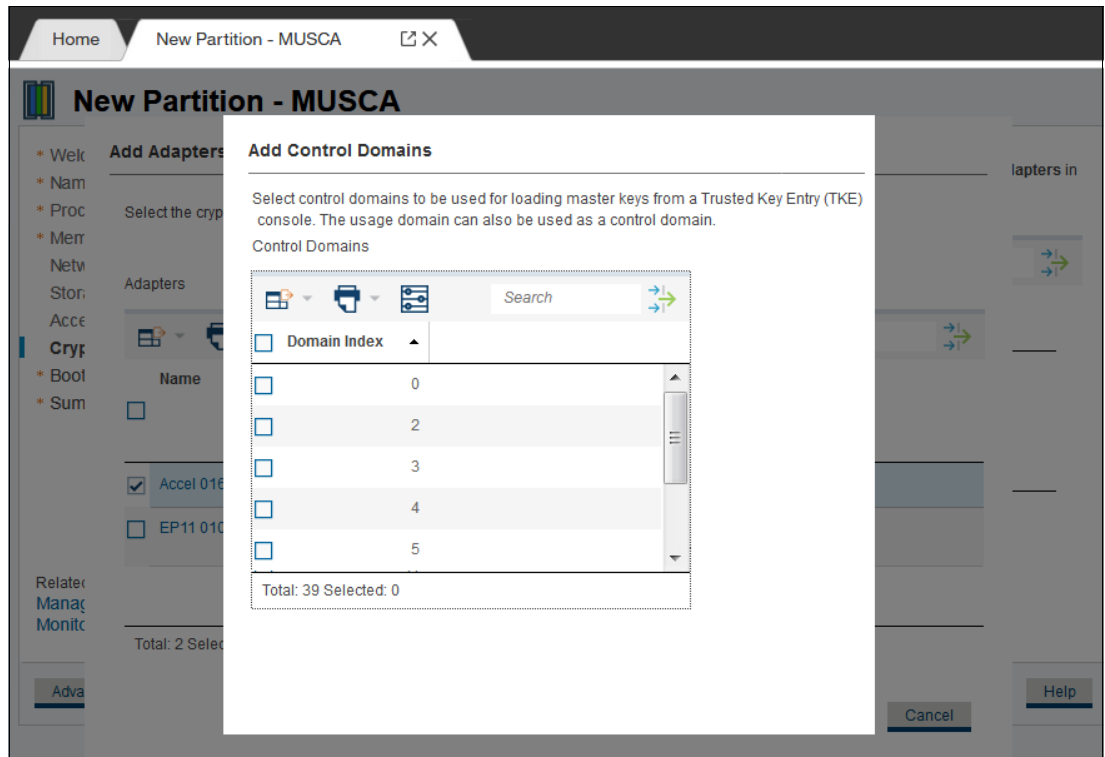

Figure 16-49 Control domain selection
6. Select the control domain, as shown in Figure 16-49.